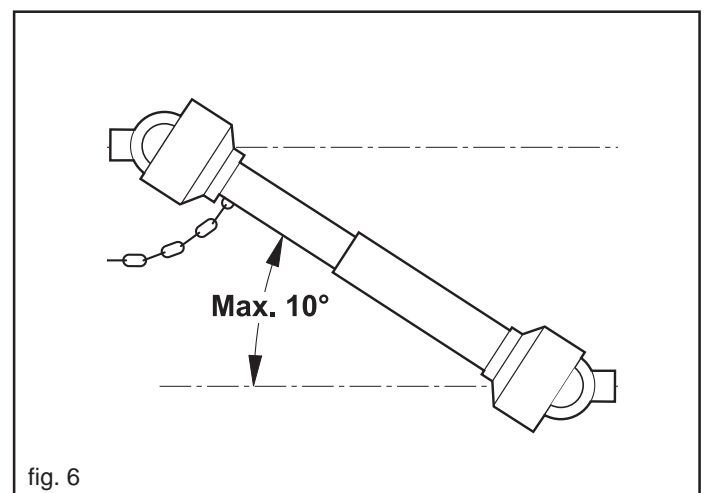

fig. 6
- 49) Always disconnect the power take-off when the Cardan shaft is at too wide an angle (never more than 10° - Fig. 6) and when it is not being used.